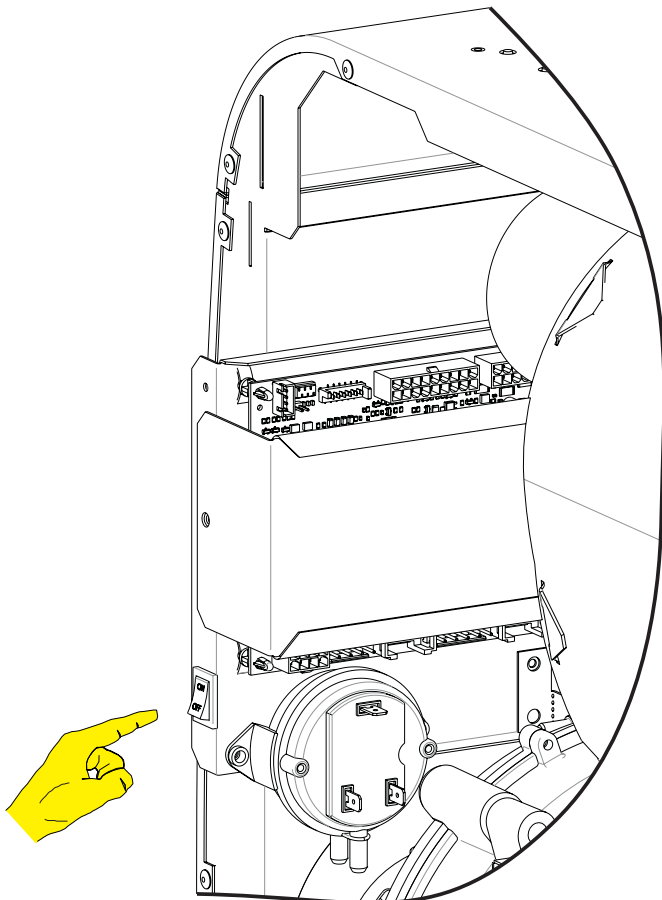

Figure 1
2. Turn off the main power switch. Or unplug the wall furnace power cord from the wall outlet. **See Figure 1.**